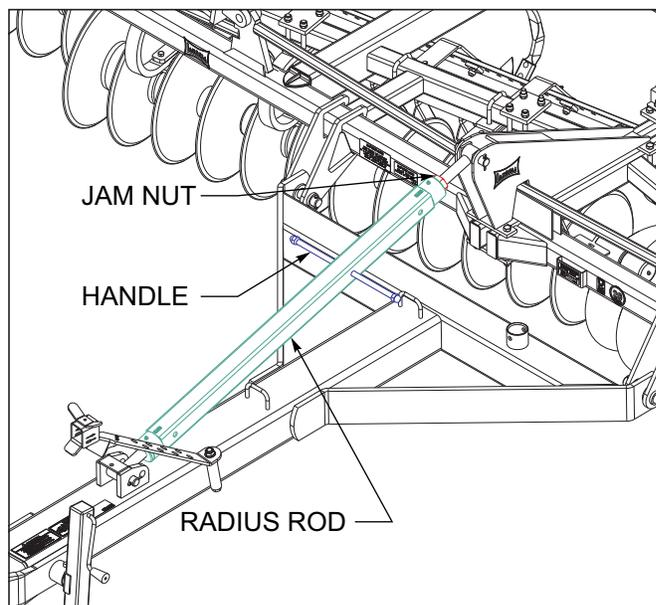

Figure 4-8: Radius Rod Adjustment
2. To adjust the leveling feature, loosen the jam nut on the top of the adjustable radius rod **See Figure 4-8**. Extend or retract the radius rod to obtain the desired length using the handle in the middle of the radius rod. Retighten the jam nut.